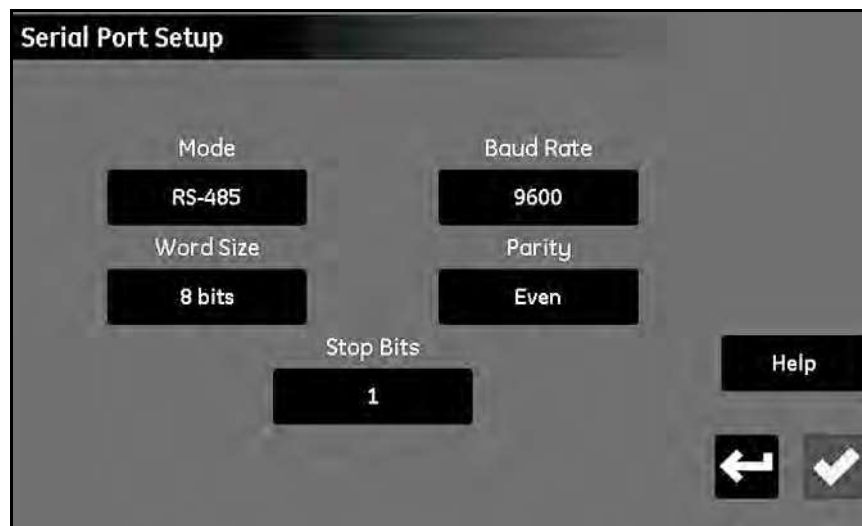

Figure 59: Serial Port Setup Screen
1. From the *Configuration Menu* screen (see *Figure 47 on page 53*), tap the **Serial Port** button to open a *Serial Port Setup* screen similar to *Figure 59* below.